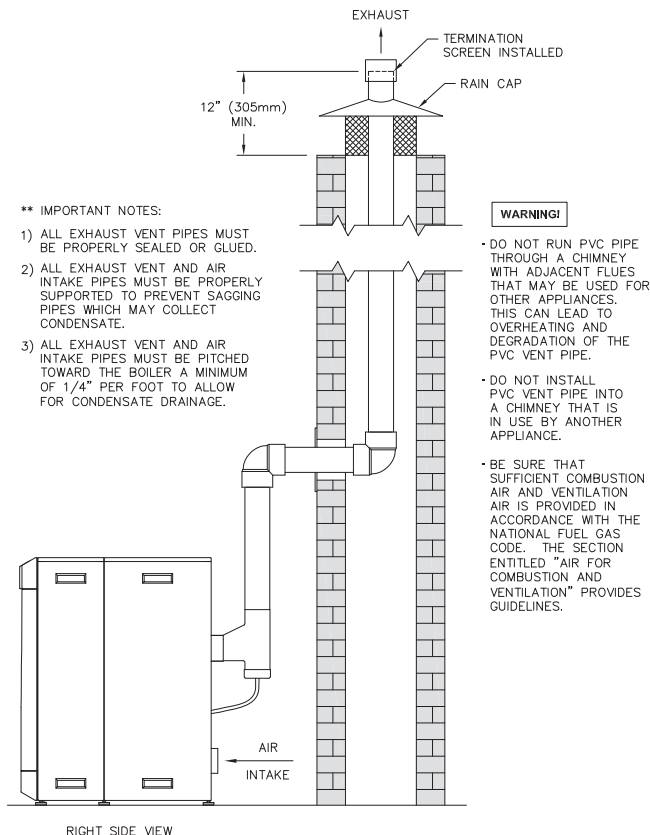

Figure 3.7: Vertical Exhaust Routed Through an Unused Chimney with Indoor Air
b. Figure 3.7 shows vertical exhaust venting through an unused chimney. In this case, combustion air is supplied from inside the building. Section 1.D provides guidelines for determining adequate inside air.